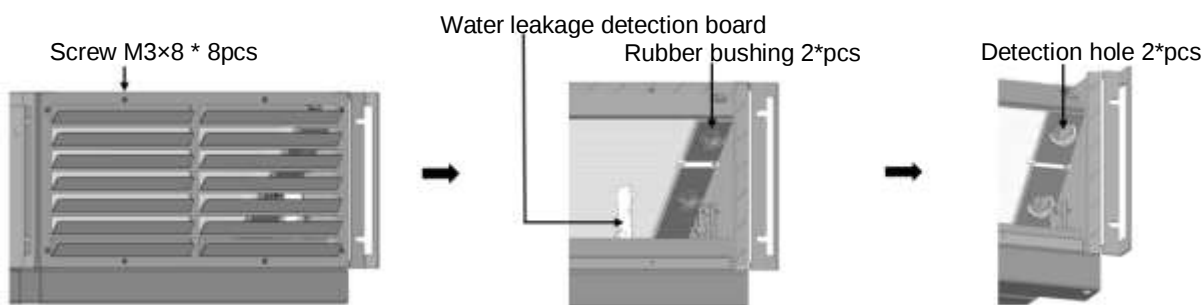
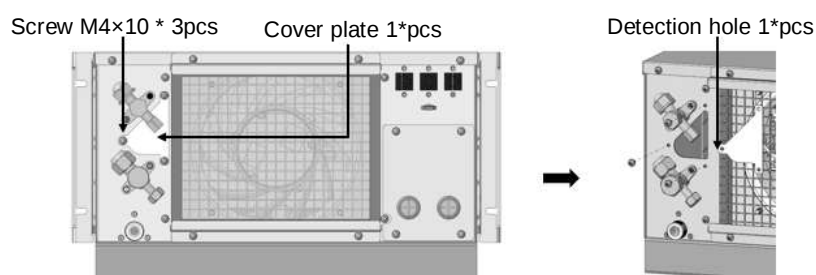

Figure 7-4 The detection holes in VRC202 (front)
Figure 7-5 The detection holes in VRC202 (rear)
For countries covered by the F-gas regulation, when the low ambient condensing unit (VRC352) is used, both the indoor unit (VRC202) and the low ambient condensing unit should be checked for leaks once a year according to mandatory rules. There are three holes in the indoor unit for detection, as shown in Figure 7-4 and Figure 7-5.
1. Remove the 8 screws, grille, water leakage detection board, and 2 rubber bushing in Figure 7-4 one by one.
2. Remove the 3 screws and cover plate in Figure 7-5.